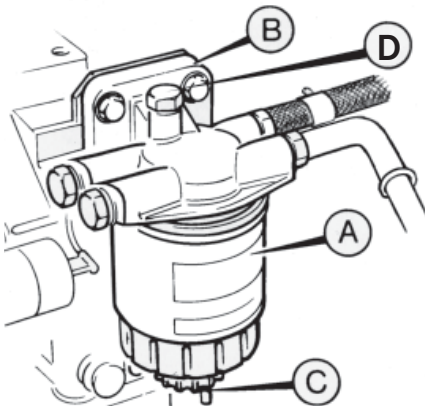

Figure 5.6.1 The fuel filter.
1. Loosen the drain screw, C (figure 5.6.1) to drain the fuel.
2. Using a suitable strap wrench, unscrew the cartridge (A) from the filter head (B).